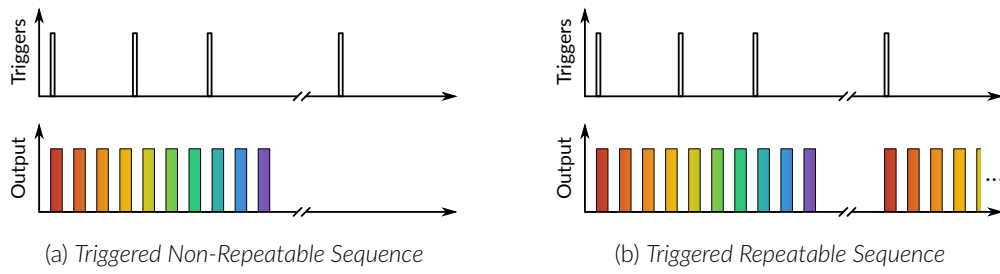

Figure 4.3: Uninterrupted Sequence Mode
- **Uninterrupted**: This mode activates the channel sequence when an input greater than 3.3 V is detected by the BNC input. Following input pulses will be ignored while the sequence is running (Fig. 4.3). When the **Repeatable sequence** checkbox is checked, the sequence will restart with the arrival of the first input pulse after the sequence has finished (Fig. 4.3b). This mode is available for *Triggered* pulse only.